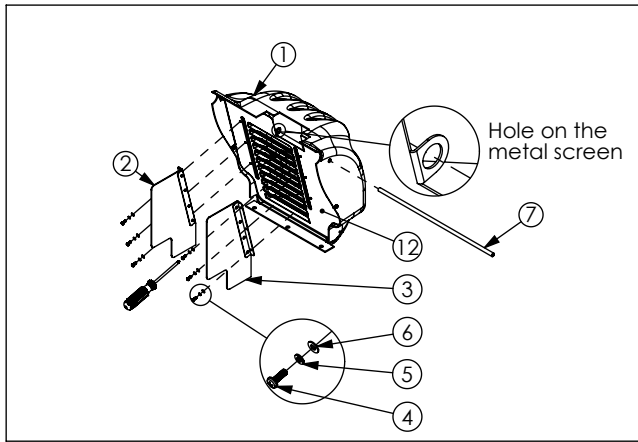

Figure 1: Kit assembly
3. Fasten the dust guards to the metal screen as shown in Figure 1, using the provided hardware.